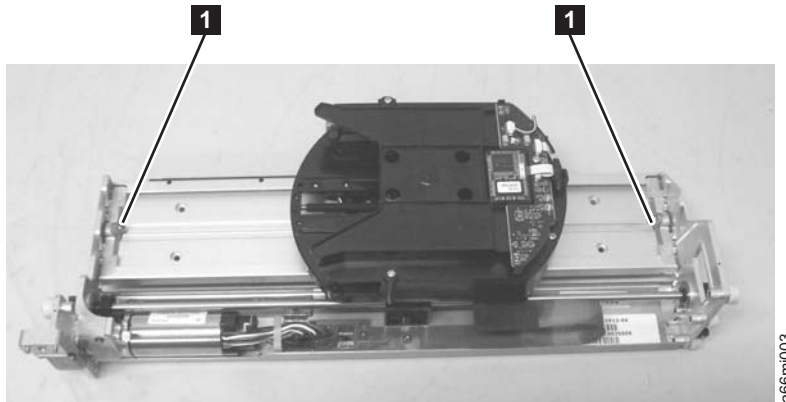

Figure 8-43. Thumb screws
7. Loosen the front and rear thumb screws (**1** in Figure 8-43 on page 8-47).
2. Tighten the front and rear thumb screws (**1** in Figure 8-43).
3. Reach through the Access Door and loosen the screws (**1** in Figure 8-43) on the front and rear of the Picker Assembly.
3. Reach through the I/O Station door and tighten the screws (**1** in Figure 8-43 on page 8-47) on the front and rear of the Picker Assembly.